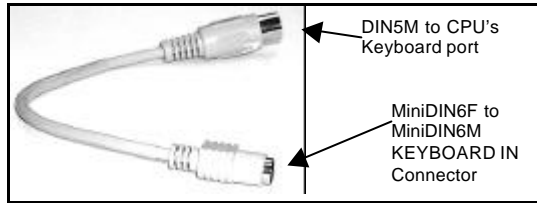

Figure 5-16 The Keyboard In adapter cable
- Keyboard In adapter cable – P/N 5CB10119 - See Figure 5-16